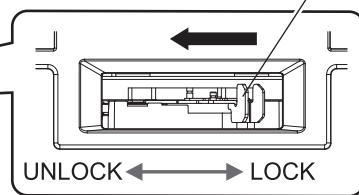

Fig. 4
- 4) **Align the mark on the projection lens (red) with the protruding mark of the projector, and insert the projection lens all the way in. (Fig. 4)**
3) While holding the projection lens, pinch the lens lock lever and turn to the Unlock side. (Fig. 4)